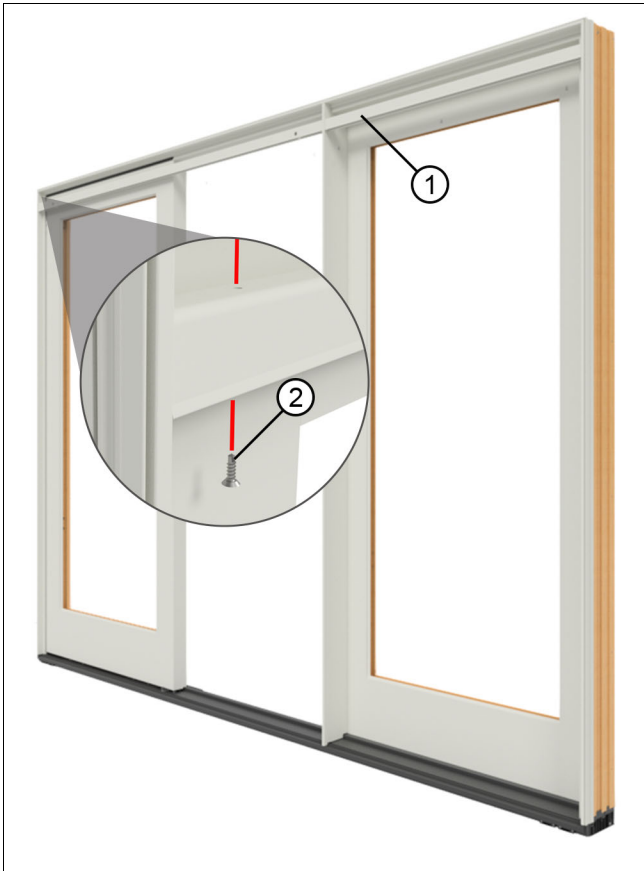

Figure 51
**4. Install the Screen Track:** On OXXO configurations, the screen track will come in two parts (butt together). OXO configurations also come in two parts separated by the mull post. Install with #7 x 3/8" self tapping screws provided. See Figure 51.